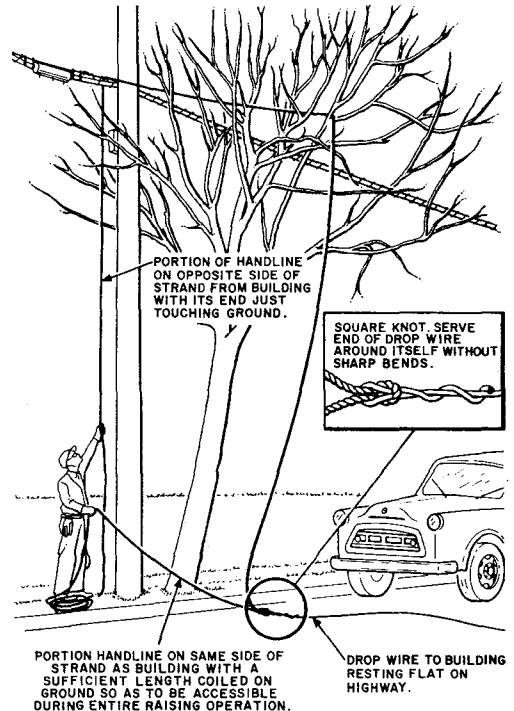

Fig. 10—Drop Wire Tied to Handline
(1) **Warning: The handline shall not overhang the street unless guarded. If practical, position the company truck so it will shield the handline.** Place handline over strand, guard arm, drive hook, or cross arm and among the tree branches as illustrated in Fig. 10, so the drop wire may be raised into position. A wire raising tool may be used to facili-
(g) With the handline in place, one technician maintains a strain on the handline while the other technician secures the drop wire to the handline as shown in Fig. 10. Any slack in the handline and drop wire is to be pulled taut and secured.